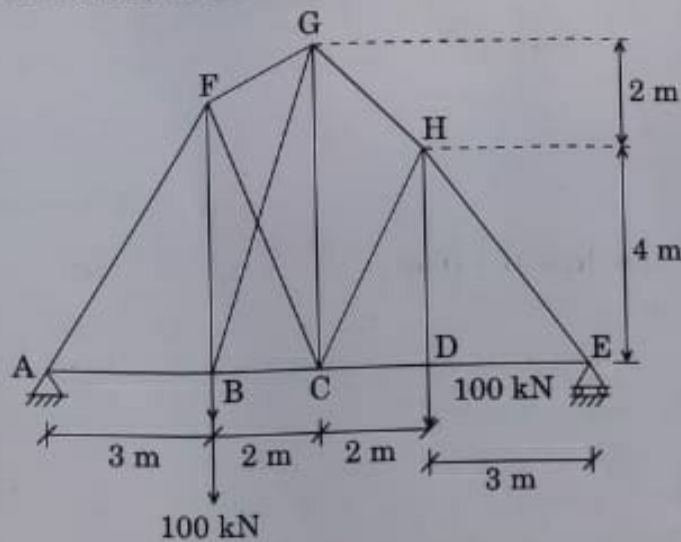

Figure 6
- (c) Determine the forces in the members of the truss shown in Figure 6. All members have same axial rigidity. 20